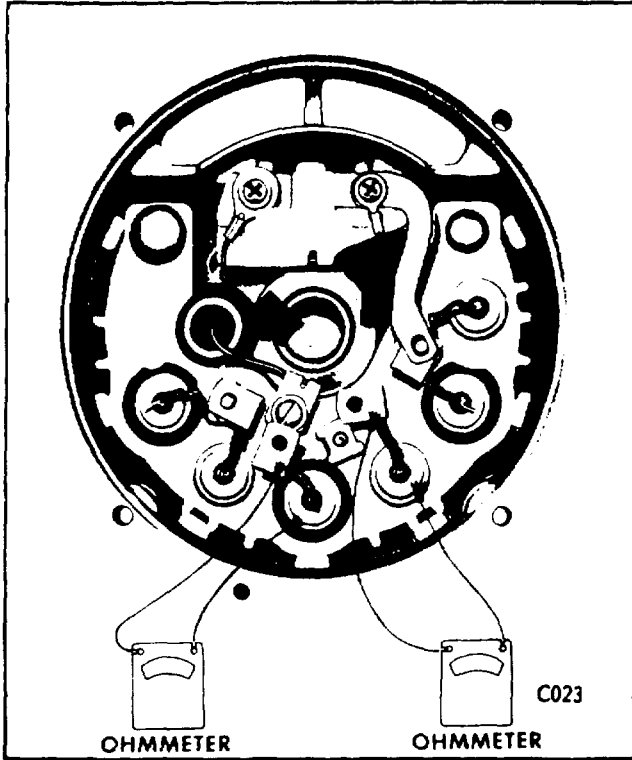

Figure 14.
b. With the stator disconnected, check a diode in the heat sink by connecting one of the ohmmeter leads to the heat sink, and the other ohmmeter lead to the diode lead, and note the reading. (Fig. 14) Then reverse the ohmmeter lead connections, and note the reading. If both readings are very low, or if both readings are very high, the diode is defective. A good diode will give one low reading and one high reading. Check the other two diodes in the heat sink in the same manner.
frame, connect one of the ohmmeter leads to the end frame, and the other ohmmeter lead to the diode lead and note the reading. (Fig. 14) Then reverse the ohmmeter lead connections, and note the reading. If both readings are very low, or if both readings are very high, the diode is defective. A good diode will give one low reading and one high reading. Check the other two diodes in the end frame in the same manner.